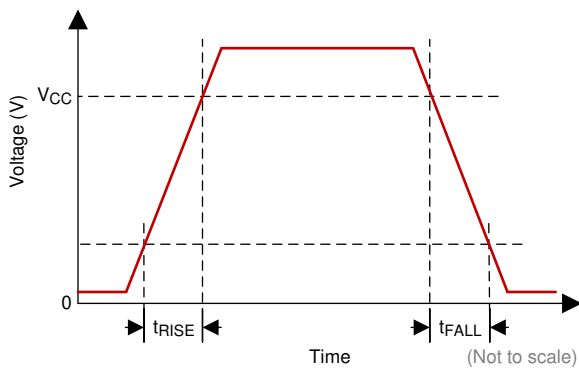

Figure 3. SCP Requirements for Rise and Fall
(1) See Figure 3 for rise time and fall time for SCP.
See Timing Requirements for t_r and t_f specifications and conditions shown in Figure 3.) For output timing analysis, make sure to consider the effect that tester pin electronics and its transmission line can cause. Use IBIS or other simulation tools to correlate the timing reference load to a system environment. (See Figure 4.)